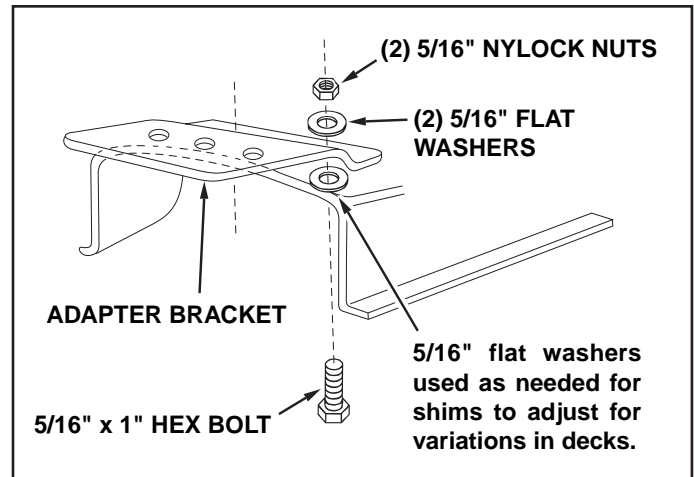

FIGURE 26
- Assemble the adapter bracket to the deck using two 5/16" x 1" hex bolts, 5/16" flat washers and 5/16" nylock nuts. See figure 26.
NOTE: It may be necessary to use extra 5/16" flat washers to shim under the bracket next to the deck surface. Ten extra washers have been furnished as shims. See figure 26.